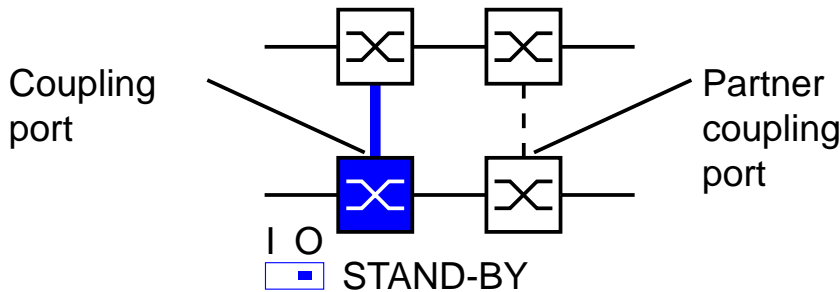

Fig. 19: Two-switch coupling
- Select the two-switch main coupling (see Fig. 19).